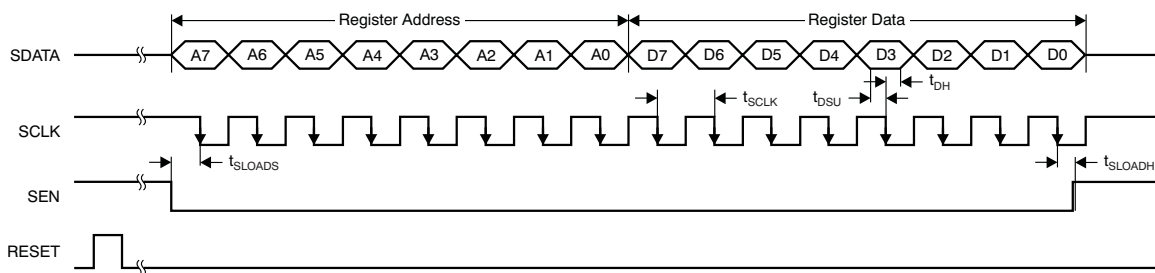

Figure 47. Serial Interface Timing
1. Either through hardware reset by applying a high pulse on the RESET terminal (of width greater than 10ns), as shown in Figure 47; or